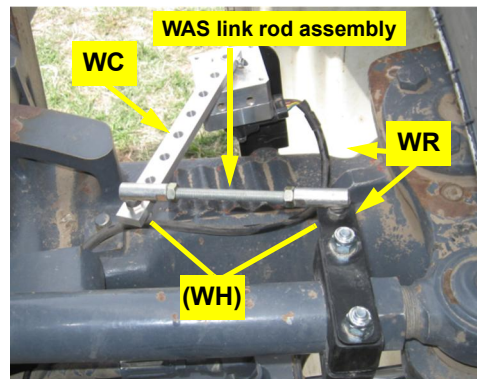

Figure 2d: Installed link rod assembly
- d. Using the remaining hardware **WH** (not visible) install the assembled WAS linkage from step 1d between the bracket **WR** and the last hole in connector arm **WC**. Install the linkage with the two swivel studs pointing downward (Figure 2d). Leave the swivel nuts **WH** loose. (You will route WAS cable **EE** to **WB** and connect it later).